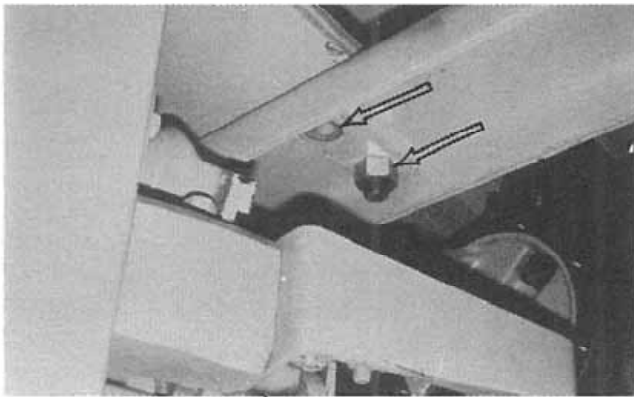

Figure 1:
1. Support the transfer case assembly with a fork-lift or hoist, and position it at the original mounting holes (Fig. 1).